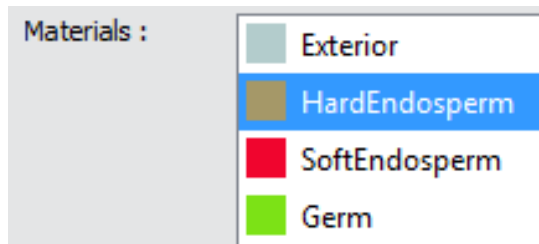

Figure 18.25: Material Selection
- *Plan*: This mode allows you to select the triangles of a given material which lie close to the bounding box plan. The plan can be selected from the plan combo box. The material is selected from the materials list (Figure 18.25). When the elements are not exactly in the bounding box plan, or follow a curved wall, it is possible to select them using a tolerance through a dedicated slider, that increases the area of selection away from the selected plan.